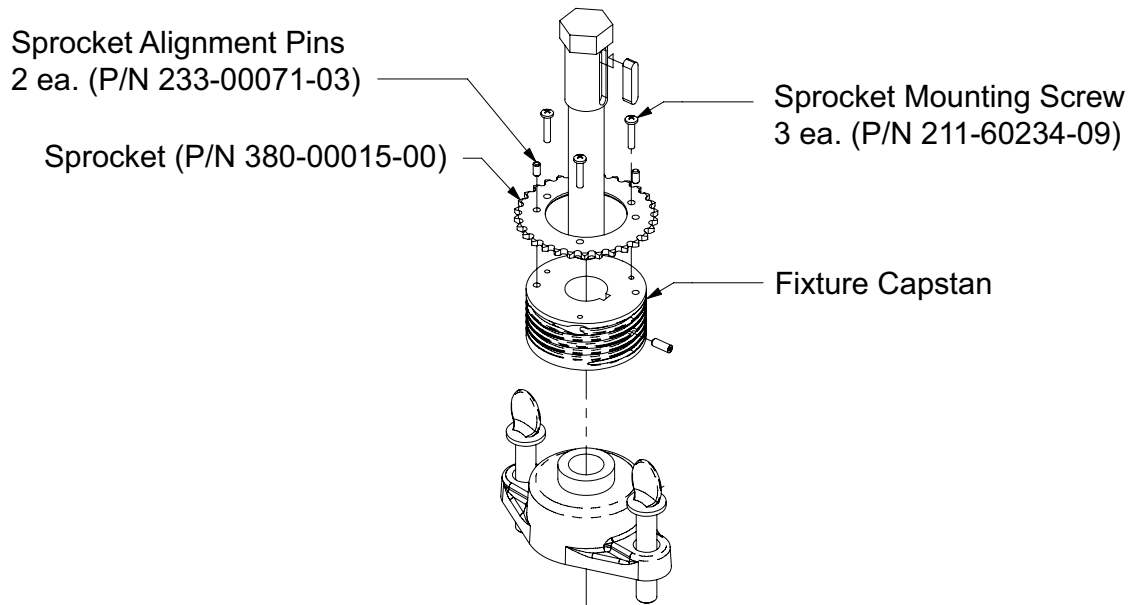

Figure 3-1. Sprocket Capstan Assembly Drawing
- 1) Refer to Figure 3-1 for the following steps.